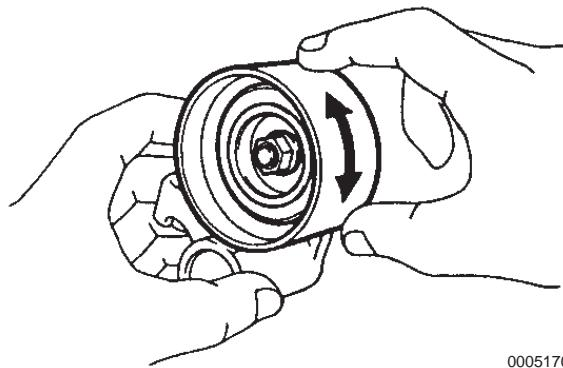

Figure 5-172
2. Inspect the idler pulley for smooth rotation. Replace the idler pulley as necessary (**Figure 5-172**).